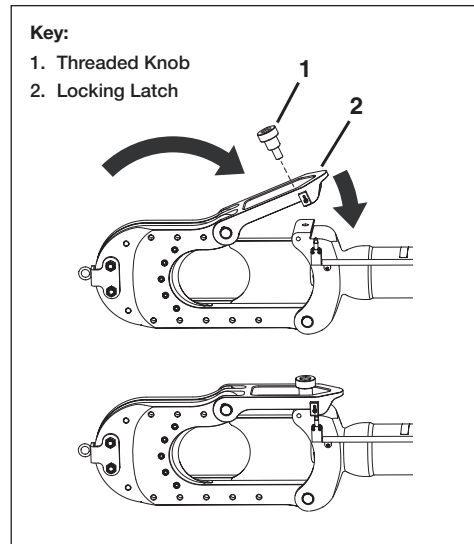

Figure 5, Closing the Cutting Head
**To close the cutting head:** swing the cutting head toward the cutter body. Then, push down on the locking latch (Figure 5, item 2) and install the threaded knob (Figure 5, item 1) to lock the cutting head in place, as shown in Figure 5.